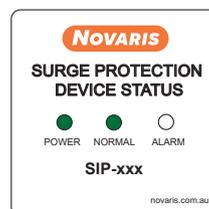

Figure 6: Normal operating conditions. SPD OK.
- 4.2 Under normal operating conditions and power is supplied to the monitored SPD the NORMAL light will illuminate, figure 6.